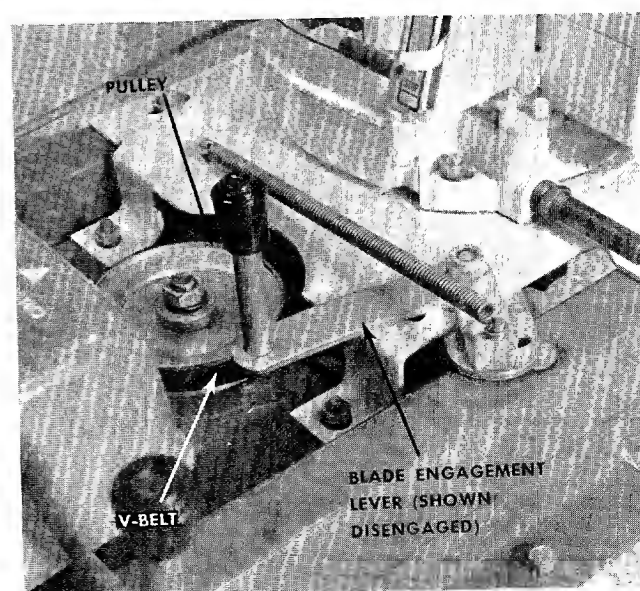
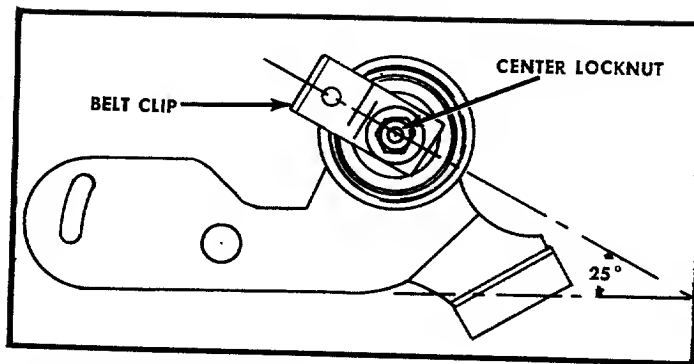

FIGURE 21. BLADE ENGAGEMENT LEVER
FIGURE 22. BELT IDLER
Step 5. Place the blade engagement lever in the engaged position (See figure 21.) and loosen the center locknut on the blade idler. See figure 22.
Use a $\frac{1}{2}$ " open end wrench. When installing the new belt be sure the belt clip is in the same position as shown in figure 22.